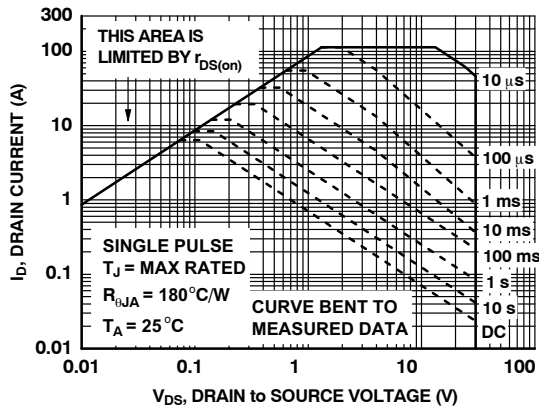
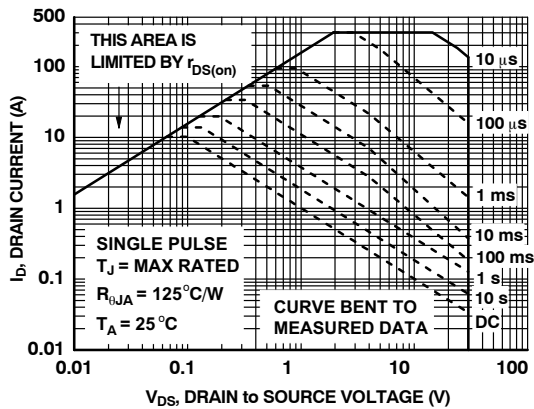

Figure 11. Forward Bias Safe Operating Area
Figure 24. Forward Bias Safe Operating Area
- Pulsed Id please refer to Figure 11 and Figure. 24 SOA graph for more details.